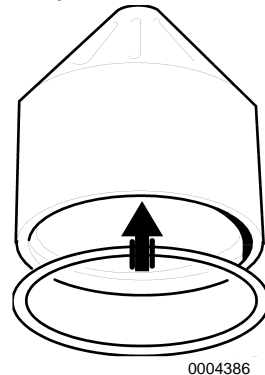

Figure 9
- Install the O-ring in the rotor bowl (**Figure 9**).